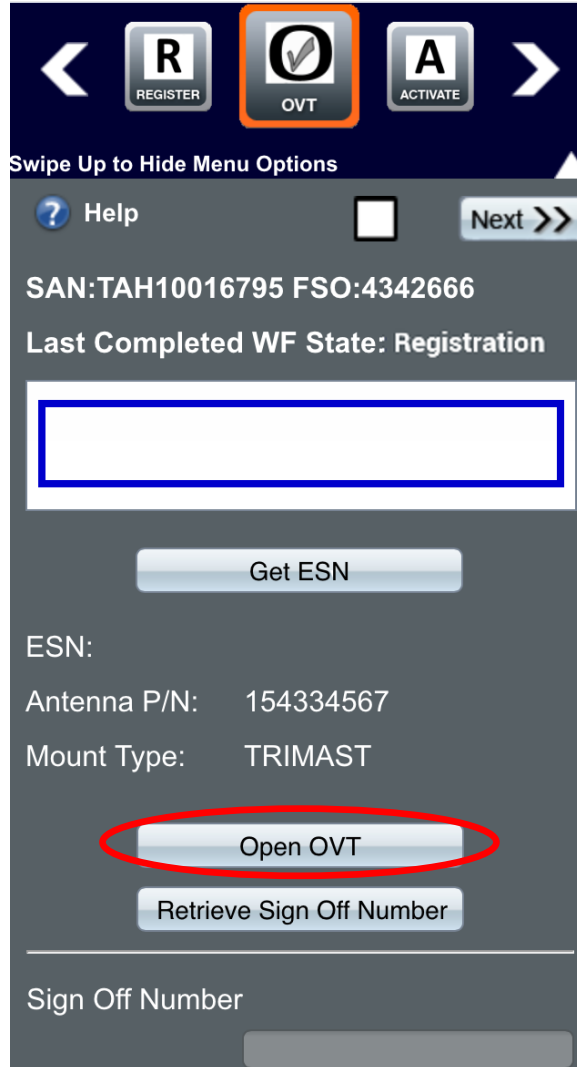

Figure 40: OVT step
1. Tap **Open OVT** (circled in Figure 40) to launch the OVT in your smart device's web browser.